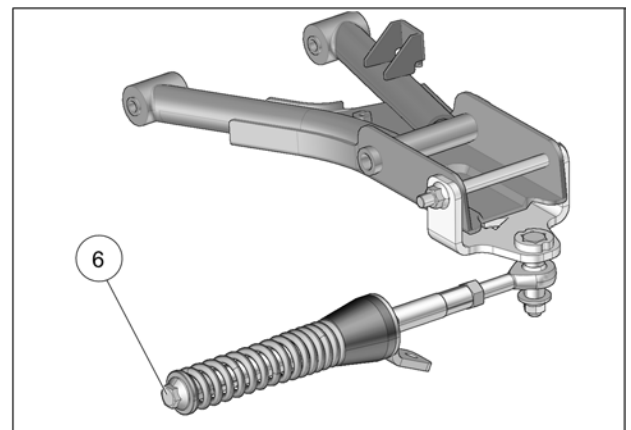

Fig. 12
- Verify that spring assembly bolt (**6**) is tightened to the recommended torque specification: 75 N•m [55 lb•ft]. Refer to Fig. 12